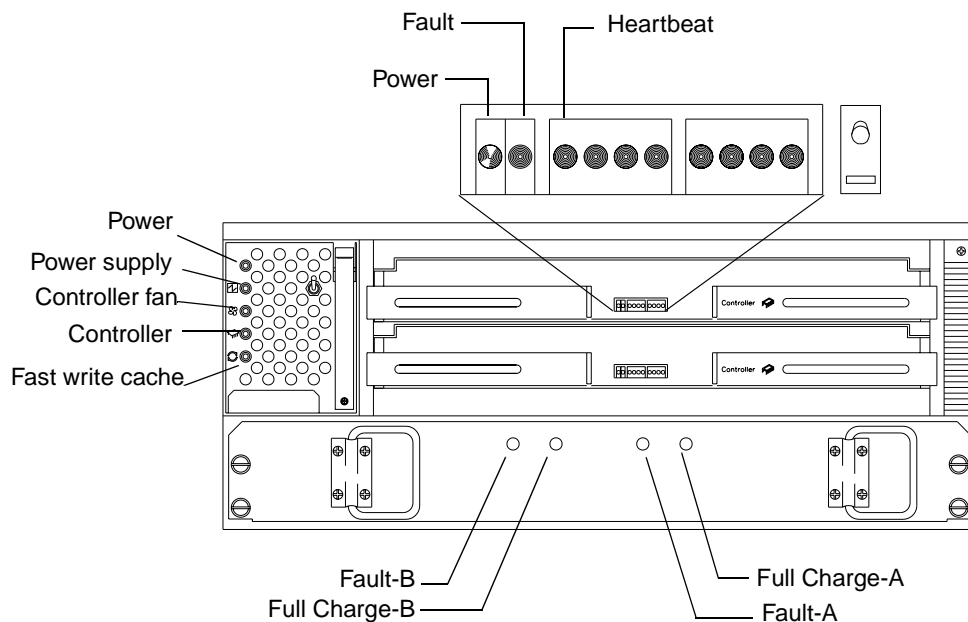

Figure 9. Indicator lights (front)
- 2** Check the indicator lights on the front of the controller unit. The indicator lights are shown in Figure 9 on page 16 and described in Table 2 on page 16.